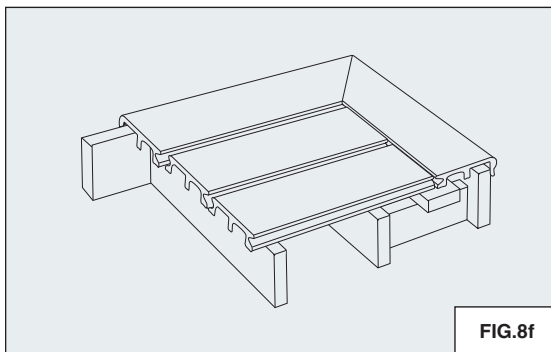

FIG.8f
- Cut decking to the exact desired length, leaving gaps for expansion/contraction. The ends of the deckboards will rest on the flat 2" x 4". (REFER TO FIG. 8f)